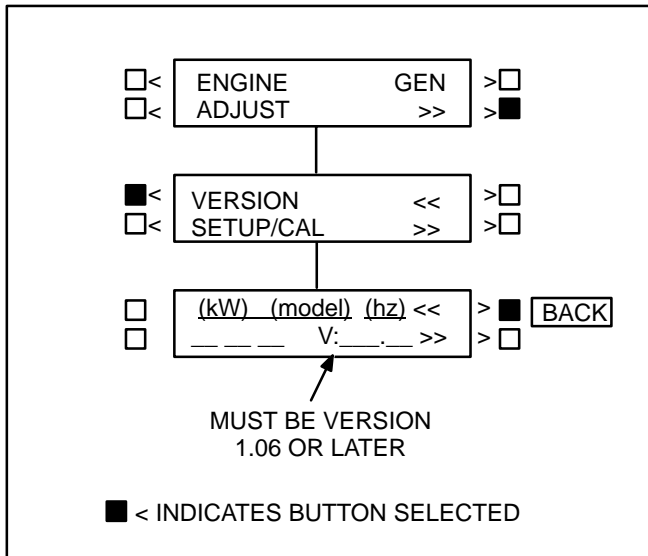

FIGURE 2. EPROM VERSION CHECK
**The GCM must be used with PowerCommand® operating software version 1.06 or newer for all models except DFHA, DFHB, DFHC and DFHD (these models have unique operating software and are GCM compatible with version 2.0 or newer).** Before installing this kit, check the version on the display menu. Access the version by pressing the menu buttons displayed in Figure 2. If the version is earlier than the version listed above, obtain and install an EPROM upgrade kit from your distributor before installing this kit.